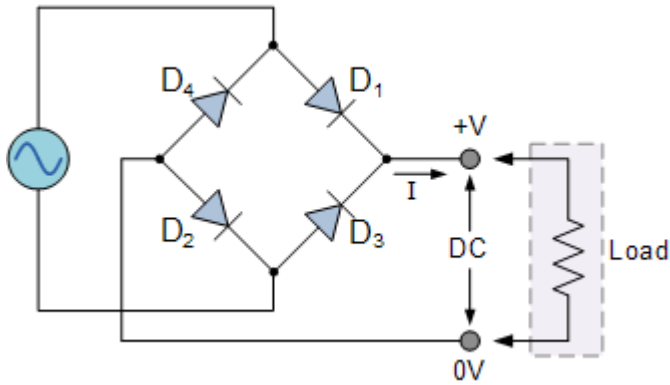

Figure 3.1: Diodes arrangement in full wave bridge rectifier
In bridge rectifiers four diodes are used as the arrangement in figure 3.1. The four diodes are arranged in “series pairs” with only two diodes conducting current during each half cycle. During the positive half cycle of the supply, diodes D1 and D2 conduct in series while diodes D3 and D4 are reverse biased.
- 1- Construct the circuit shown in Figure 3.1,  $R_{load}=1\text{ k}$ ,  $V_s=0\text{ Vp-p}$  100Hz.